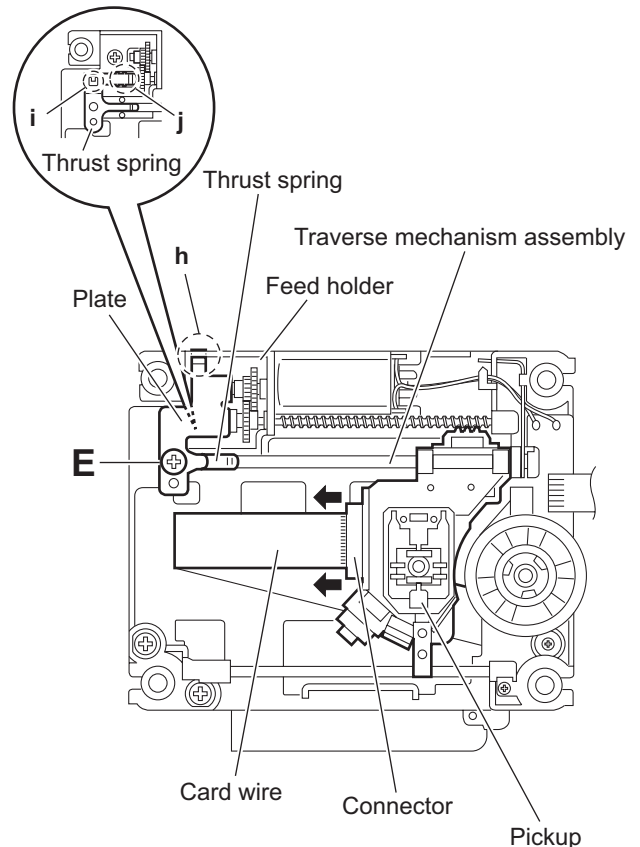

Fig.6
- (2) Release the lock of the connector on the pickup in the direction of the arrow and disconnect the card wire. (See Fig.6.)
- (3) Remove the screw **E** attaching the plate and thrust spring. (See Fig.6.)
- (4) Remove the engagement section **h** attaching the plate to the feed holder and remove the plate. (See Fig.6.)
- (5) Remove the engagement sections (**i, j**), remove the thrust spring. (See Fig.6.)
- (3) Attach the plate and thrust spring. (See Fig.6.)